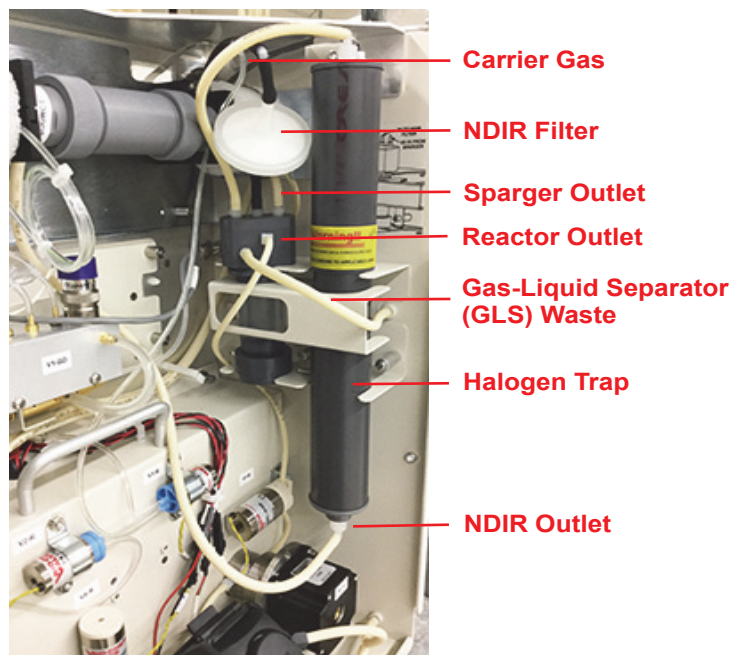

Figure 2: The Gas-Liquid Separator
2. Disconnect the tube from the top barb on the left side of the gas-liquid separator. See Figure 2 and the barb marked "to NDIR Filter."
3. Fill the squeeze bottle with deionized (DI) water or the best-quality water available.
4. Use the squeeze bottle to fill the gas-liquid separator through the center top barb until the water level is as shown in Figure 2.